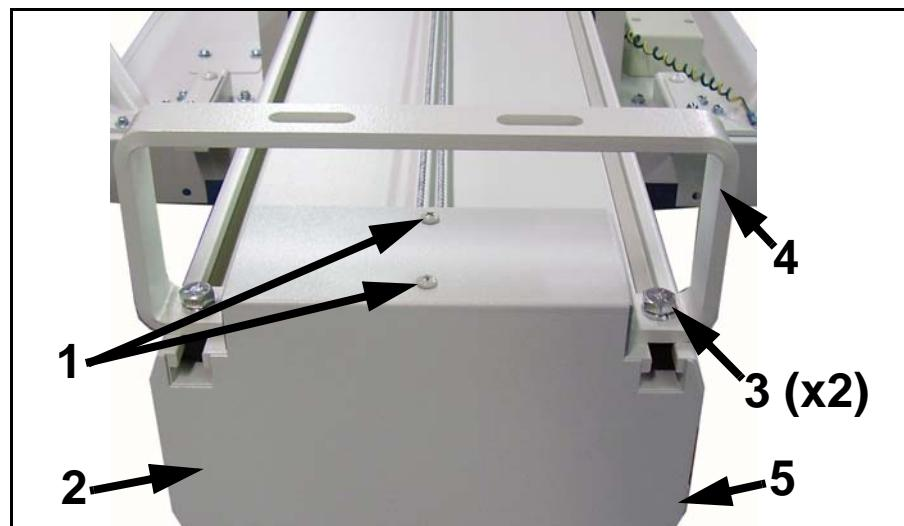

Figure 6-25. Top Cover & Bracket
- 3 Unscrew top cover screws (1 in Figure 6-25) and remove top cover (2).
- 4 Loosen two bracket bolts (3) and slide bracket (4) off of top of column (5).